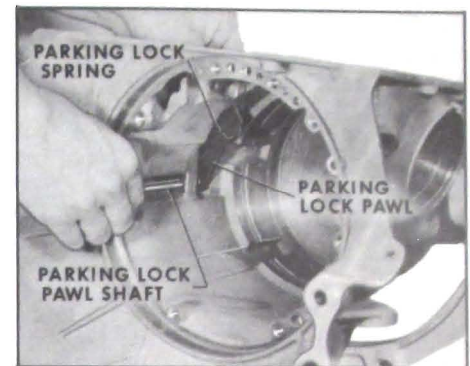

Figure 5-285
2. Retain parking lock pawl and spring in case with parking lock pawl shaft. See Figure 5-285.